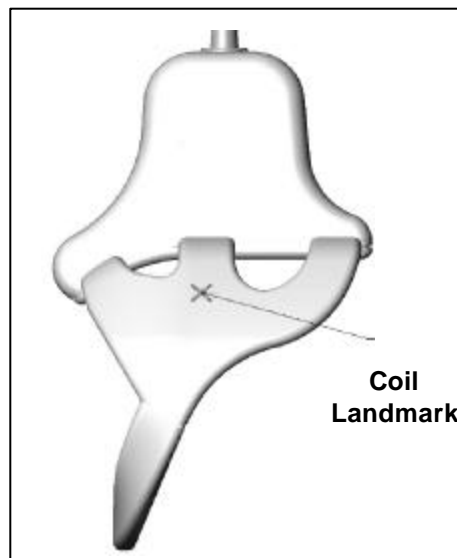

Figure 10: Coil landmark.
- Position the alignment light as shown in *Figure 10*.